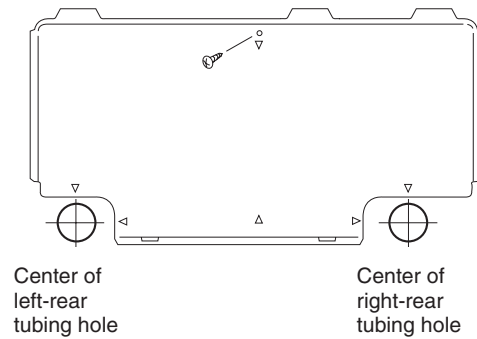

Fig. 1-66
- (1) Remove the rear panel from the indoor unit and place it on the wall at the location selected. Make sure the unit is horizontal using a level gauge or tape measure to measure down from the ceiling.
- (2) Determine which side of the unit you should make the hole. (Fig. 1-66)
- (3) Before making a hole, check carefully that no studs or pipes are directly run behind the spot to be cut.